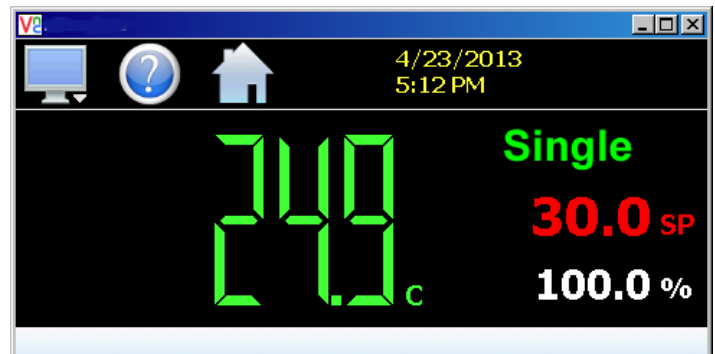

Fig. 137: Touch Screen Appearance on Desktop
- E. Once the connection is established, the current Touch Screen display will be shown on your desktop (Fig. 137). The image will be a duplicate